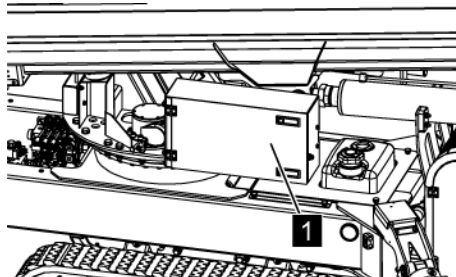

Fig. 185: Hydraulic control box
7. → Open the hydraulic control box (Fig. 185/1).